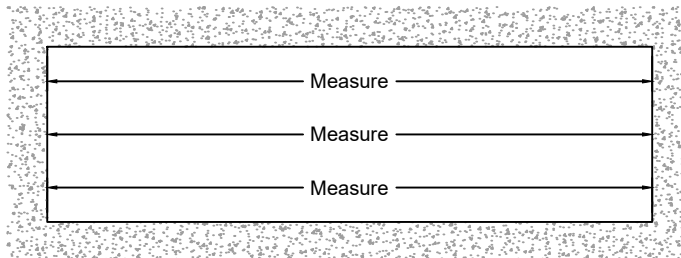

Fig. 22.2
- B. Measure the width of the opening (Rough Opening) at the top, middle and bottom. Select the smallest of these dimensions and subtract the left and right caulk joint width per approved shop drawing (1/2" (12.7mm) minimum caulk joint at jams). SEE Fig. 22.2.